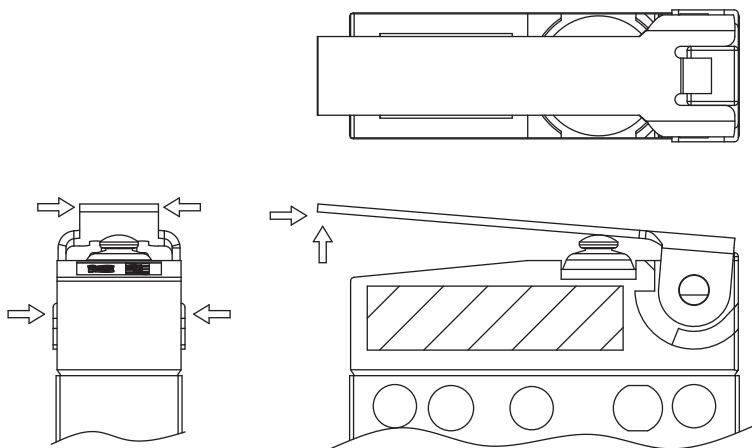

Figure-1
4. To ensure the best performance of the switch, when handling/installing the switch, please do not apply uneven pressure to the direction indicated by the arrow in (Figure -1). Any uneven pressure or pressure direction other than the operating direction might be harmful or damage the switch performance.